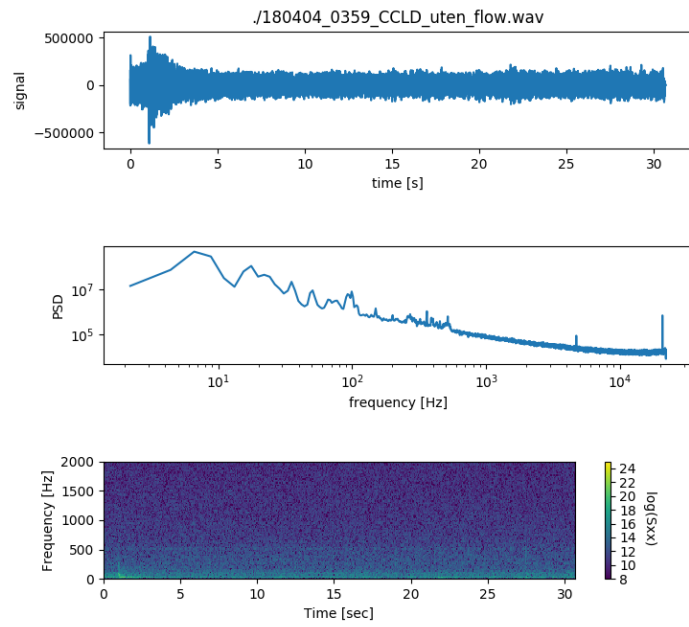

Figure 1: Spectra of the case without flow in the pipe. A measure of the noise level.
- Make a small program that reads the files and plot the spectra and compare with the results shown in Figures 1 and 2.